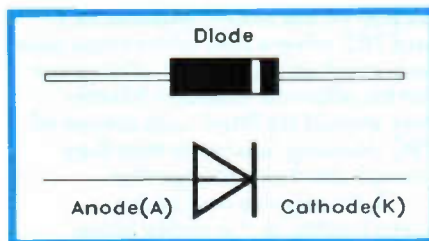

Figure 5. Diode symbol and connections.
e) The next component to be fitted is D1, which is a small tube-like component having a lead at each end of its black body. Like LD1 and LD2, it must be connected the right way round (In other words, D1 is a 'polarised' component). Its 'polarity', which tells us the way in which it must be positioned, is indicated by a white (or silver) band close to one end of the body. D1, its circuit symbol and connections, are shown in Figure 5. The diode should be fitted so that the band lines up with the band on the drawing of the diode on the guide-sheet.